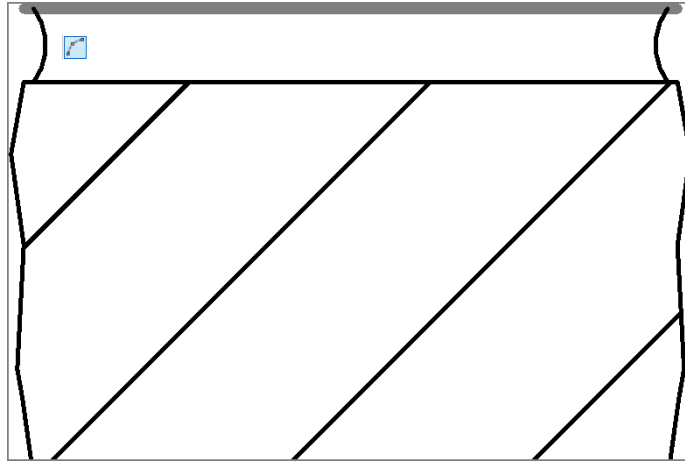

FIGURE 12.22: Adding the mortar joint
3. Draw two arcs to the left and right of the top of the brick, as shown in Figure 12.22.